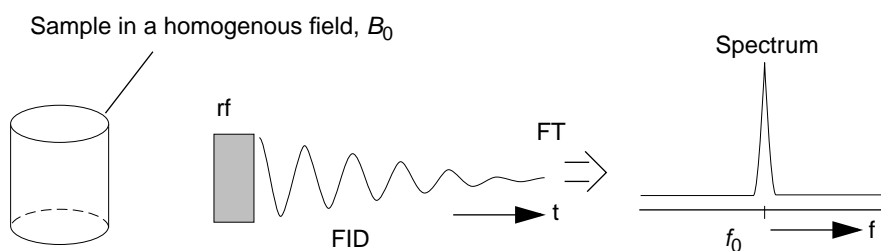
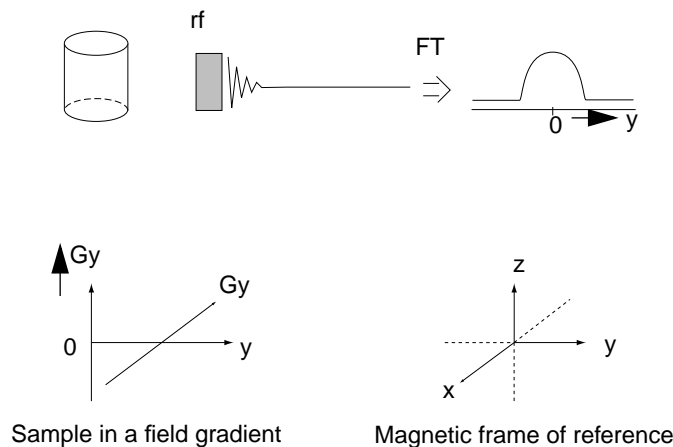

Figure 1. Frequency Spectrum Produced by an NMR Signal
Figure 2. Effect of a Field Gradient Along Direction y
As an example of Time domain to spatial domain conversion, consider a tube of water inserted within an NMR probe and placed in the center of the magnet. The magnet produces a homogeneous field in the region surrounding the water sample. A single pulse experiment yields an NMR signal that, on Fourier transformation (FT), produces the frequency spectrum of the sample, as shown in Figure 1.
Consider the water sample shown in **Figure 1** and apply a linear field gradient along the y direction, ranging from a negative value to a positive, as shown in **Figure 2**.
In **Figure 2**, the field along the y direction is no longer constant but varies linearly, depending on the position y . The field at a particular location, y , is defined by $y \cdot G_y$, in which G_y (in gauss/cm) refers to the field gradient along y direction. Therefore, the spins along the y direction experience a unique field depending on the location of the y direction.